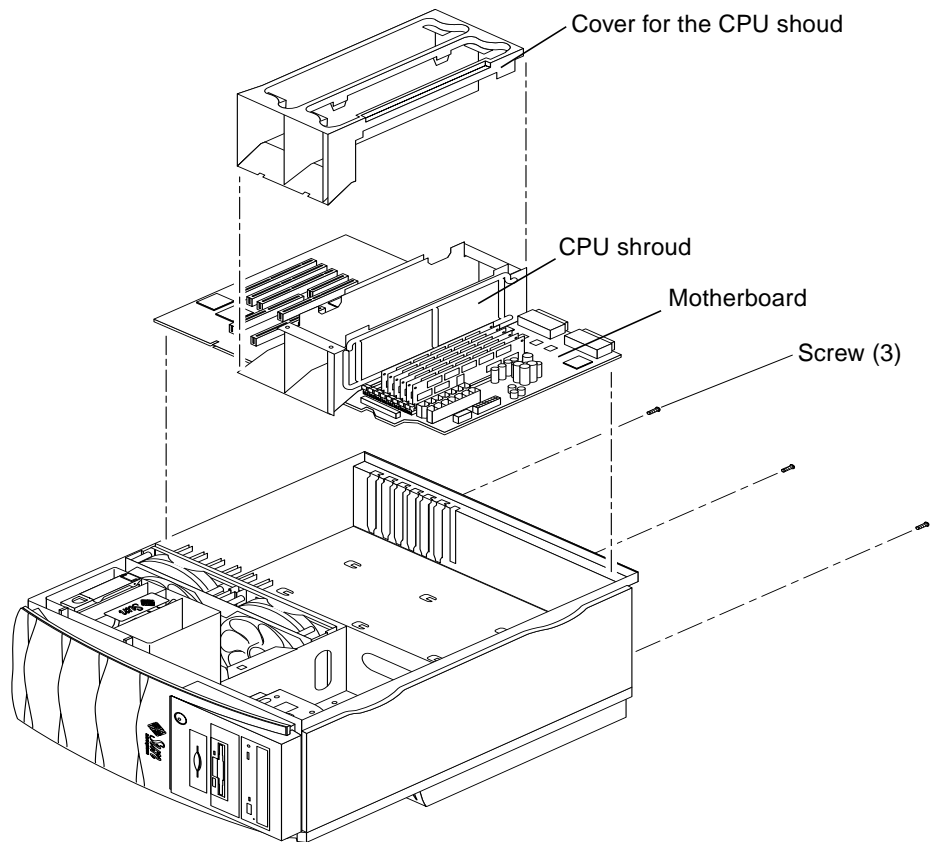

FIGURE 8-20 Removing and Replacing the Motherboard
2. **Lay the workstation on its side (FIGURE 8-20).**
6. **Using a No. 2 Phillips screwdriver, remove the three screws securing the motherboard to the chassis back panel (FIGURE 8-20).**
7. **Position the motherboard in the chassis** (FIGURE 8-20).
9. **Using a No. 2 Phillips screwdriver, replace the three screws that secure the motherboard to the chassis back panel** (FIGURE 8-20).